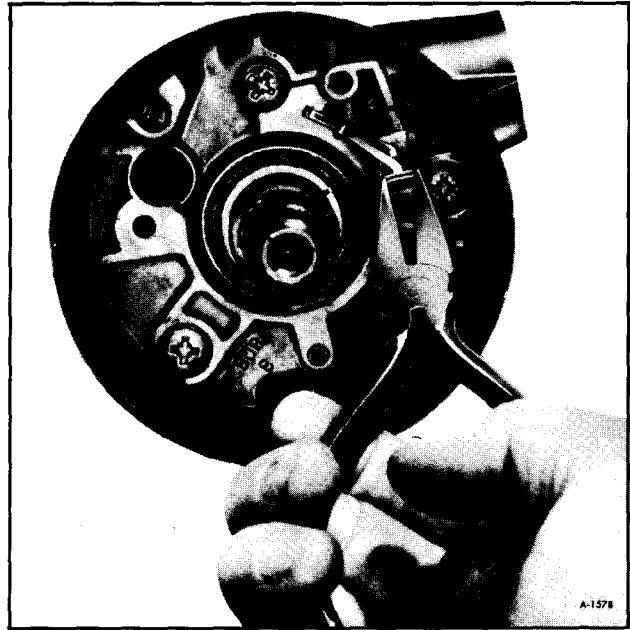

Figure 84—Removing Buzzer Switch
13. The buzzer switch can be pulled straight out of the housing (figure 84). A flat spring wedges the switch toward the lock cylinder (figure 85).